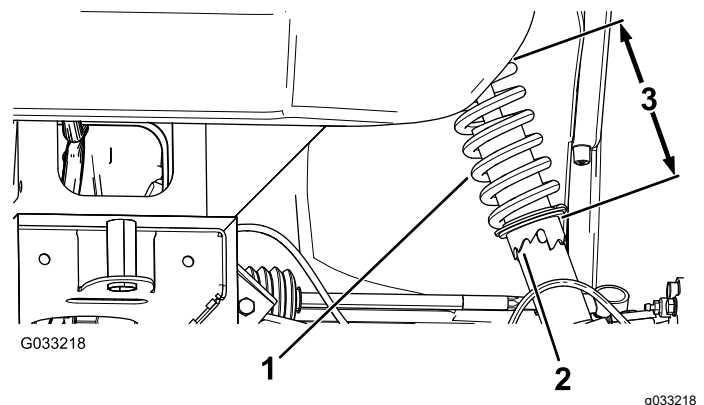

Figure 49
- If the wheel camber is out of alignment, use the spanner wrench to rotate the collar on the shock absorber to align the wheel (Figure 49).